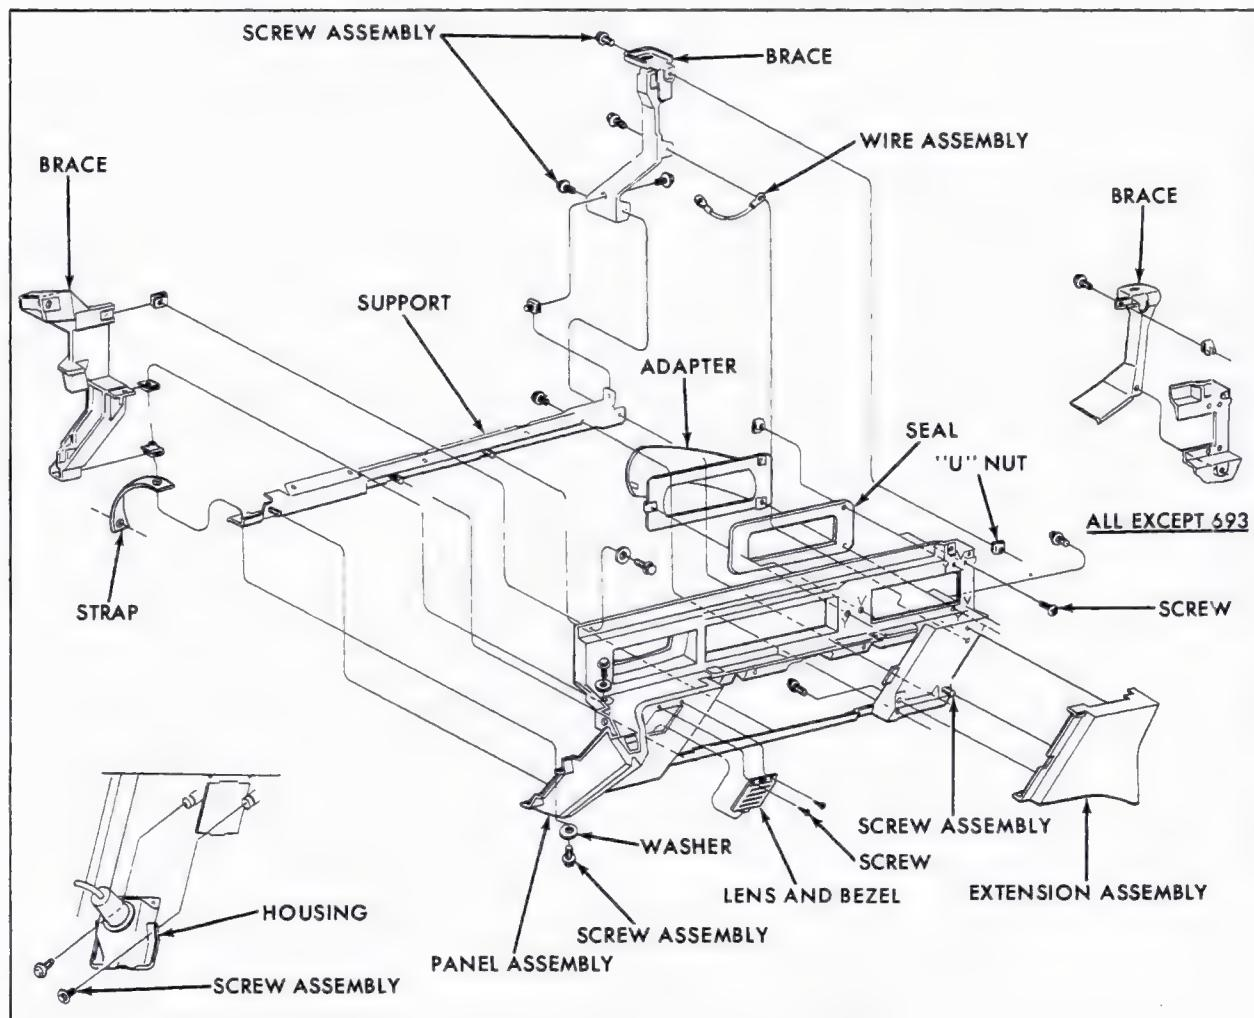

Fig. 12-41 Instrument Panel - (Right Side)
51. Instrument Panel—Right Side (Fig. 12-41)
8. Remove the following screws as shown in Fig. 12-41:
2. Install the following screws as shown in Fig. 12-41:
52. Instrument Panel Extension—Right Side (Fig. 12-41)